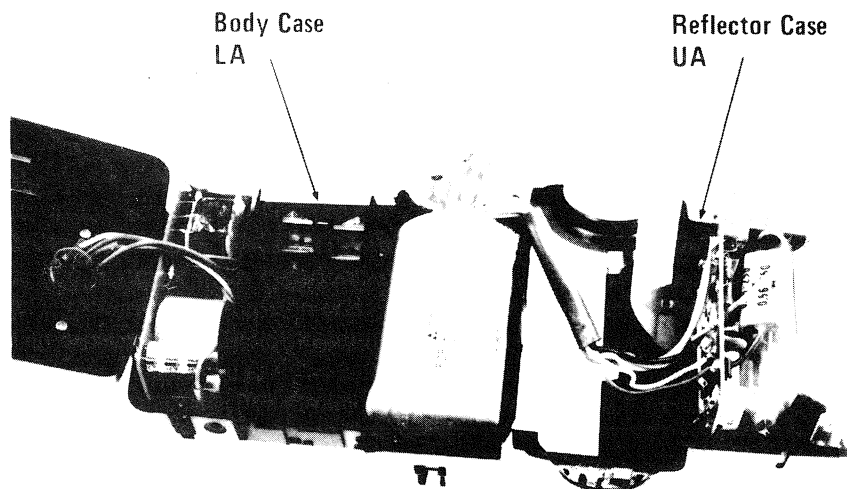

Figure 3-6. Positioning Body Case Halves
- G. To discharge capacitor C11, position body case halves and reflector case UA as shown. Fig. 3-6.